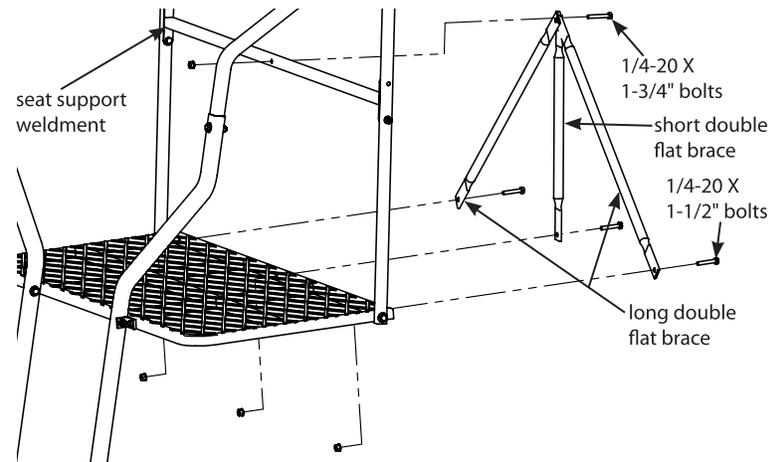

Figure 5
8. Attach the (1) short double flat brace (14131) and (2) long double flat braces (14518) to the rear of platform and seat support weldment using (3) provided 1/4-20 x 1-1/2" bolts, (1) 1/4-20 x 1-3/4" bolt and (4) locknuts. **SEE FIGURE 5.**